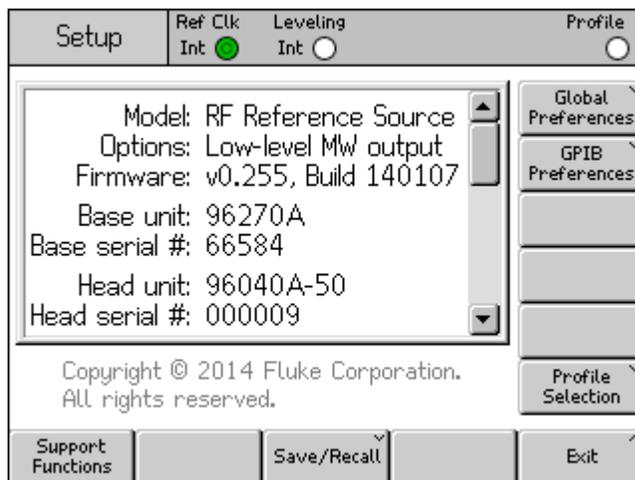

Figure 3-19. Instrument Setup Screen
1. Push **SETUP** to show the Instrument Setup screen. See Figure 3-19.
4. Push the Back softkey to save the Global Preferences settings and return to the Instrument Setup screen shown in Figure 3-19.